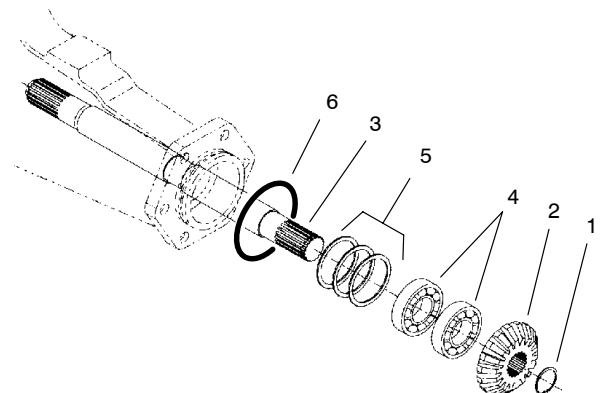

Figure 12
3. Remove the retaining ring and bevel gear (Fig 12).